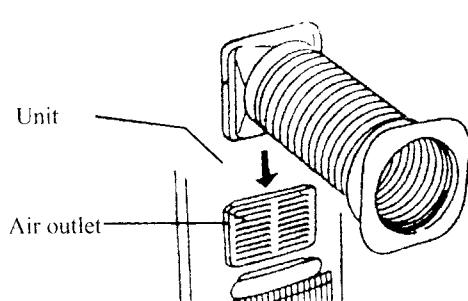

Fig. 188
- (1) When cooling, attach one end of the exhaust air outlet of the unit to the dehumidifier air outtake
- (2) Attach the other end of the duct to the nearby window, see fig 188,189.